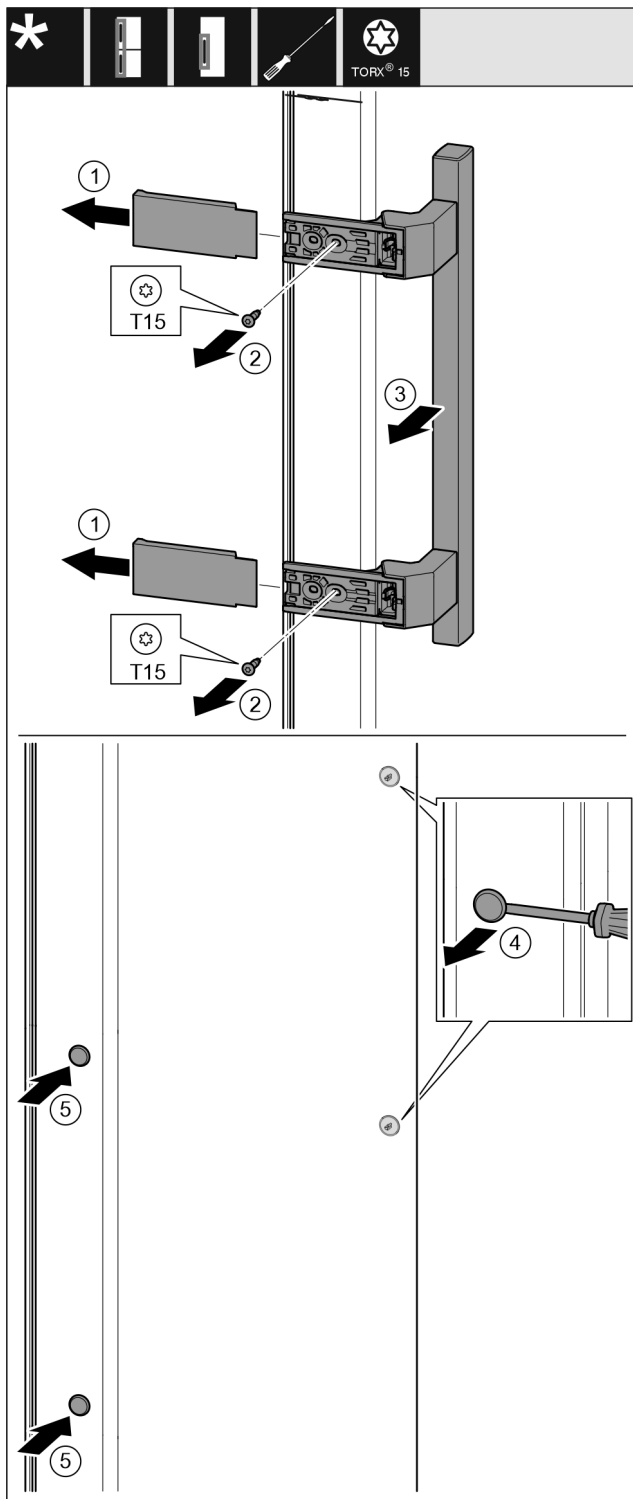

Fig. 19
- ▶ Pull off the cover. *Fig. 19 (1)*
- ▶ Unscrew the screws with a Torx 15 screwdriver. *Fig. 19 (2)*
- ▶ Take off the handle. *Fig. 19 (3)*
- ▶ Carefully lift the side plug with a slotted screwdriver and pull it out. *Fig. 19 (4)*
- ▶ Replace the plug on the other side. *Fig. 19 (5)*